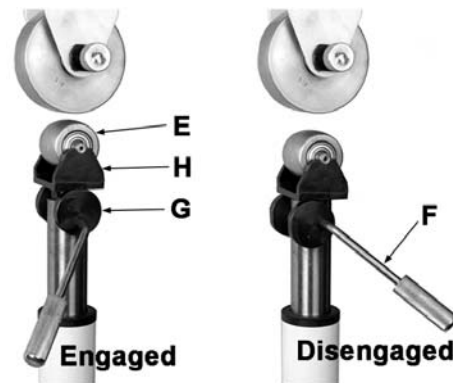

Figure 3
Refer to Figure 3:
**Note:** To reinsert a workpiece or insert another workpiece of the same thickness, use the *quick release lever* (F, Figure 3).